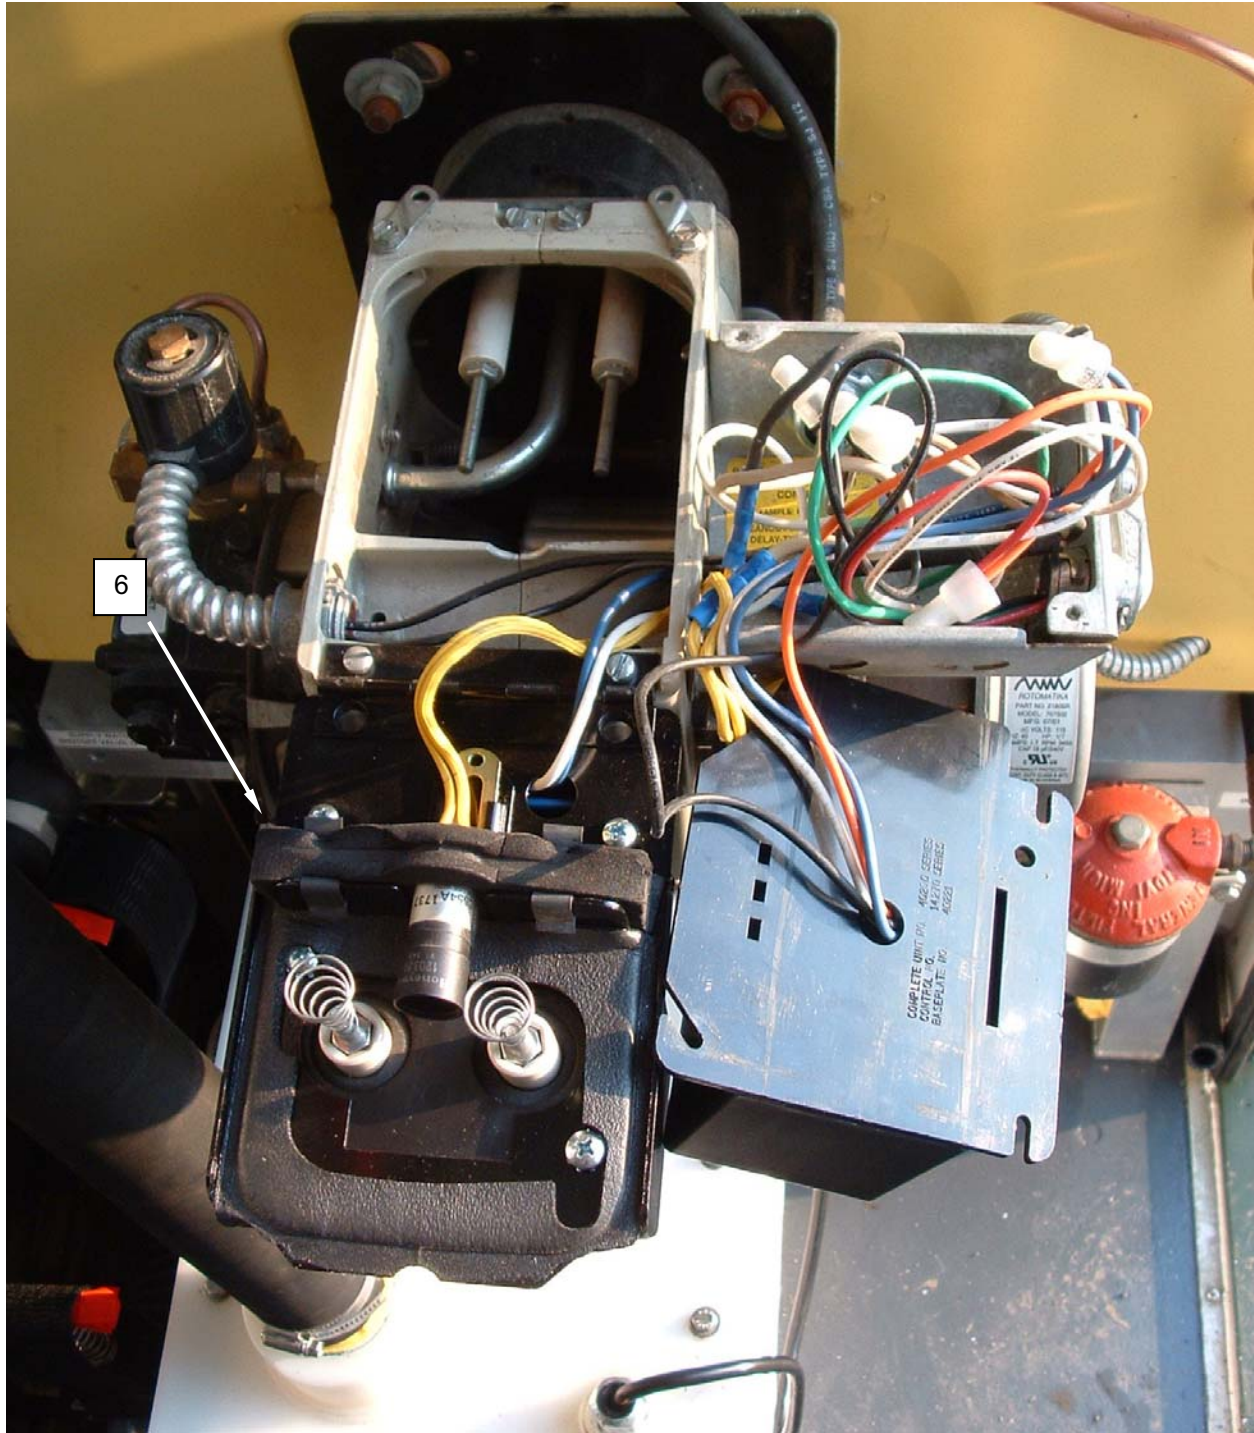

Figure 7. Replace the Burner Transformer.
2. Remove the screws retaining the transformer (**Figure 7, Item 6**) and flip the transformer up and back.
4. Remove the remaining screws at the hinge retaining the transformer (**Figure 7, Item 6**) and remove the transformer.
5. Install the replacement transformer (**Figure 7, Item 6**) and secure in place with screws at the hinge.
7. Place the transformer (**Figure 7, Item 6**) in operating position and retain with screws.